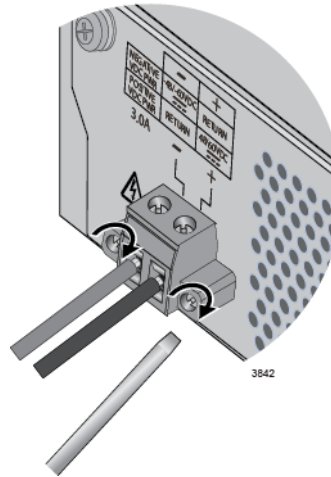

Figure 33. Securing the DC Connector to the Switch
7. Tighten the two captive screws on the sides of the DC connector to secure the connector to the switch. Refer to Figure 33.